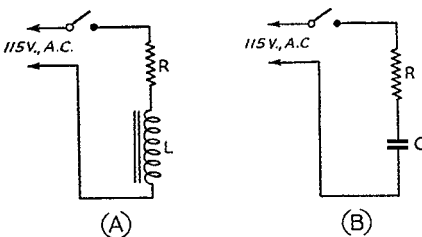

Fig. 11
**Procedure:** Connect the choke coil, 0.1- $\mu$ fd. condenser and the 1000-ohm resistor in series as shown in Fig. 11-A. Read the voltages across the resistance, capacity, inductance, and across the condenser and inductance in series. Substitute the 2000, 5000 and 10,000-ohm resistances one at a time in place of the 1000-ohm unit and again take voltage readings. Repeat the same procedure with the 0.25- $\mu$ fd. condenser replacing the 0.1- $\mu$ fd. unit, and finally repeat again with the 1- $\mu$ fd. capacity.
**Procedure:** Arrange the circuit as shown in Fig. 11-B. Using the 1000-ohm resistor at  $R$ , take voltage readings across  $R$  and across the parallel inductance and capacity, using successively the 0.1-, 0.25- and 1- $\mu$ f. condensers. Substitute the 2000-, 5000- and 10,000-ohm resistances and repeat the procedure in each case. Following is a typical set of data, taken with the line voltage at 123 volts: